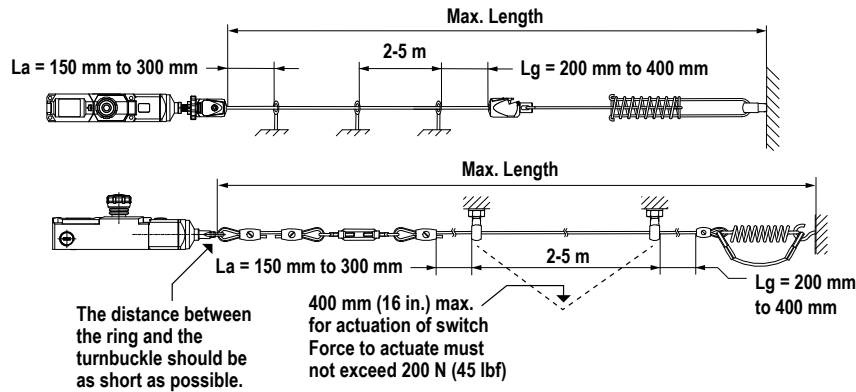

Figure 6. Assembly of Rope and Hardware
- Route the rope using pulleys (recommended) or eye bolts at each support point (securely/rigidly mounted) as described in Figure 6 on page 5.
- c. Assemble the Turnbuckle (RP-TA1-1) and the second thimble/clamp loop to attach the connection link between the turnbuckle and the ring of the switch, as shown Figure 6 on page 5. Hardware kit RPAK-C2SBP-1 can be used for the connection link.